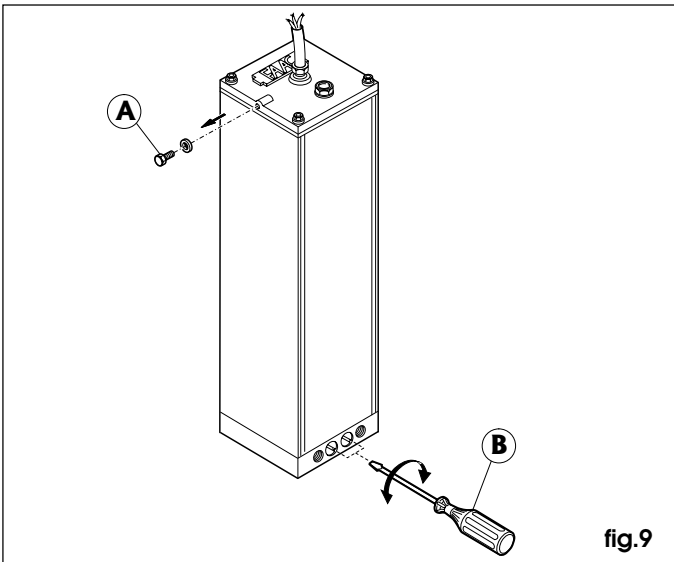

fig.9
- 4) Remove and store the breather screw as shown in fig.9 ref.A.
To set the hydraulic system controlling transmitted power, turn the two by-pass screws (fig.9 ref.B).